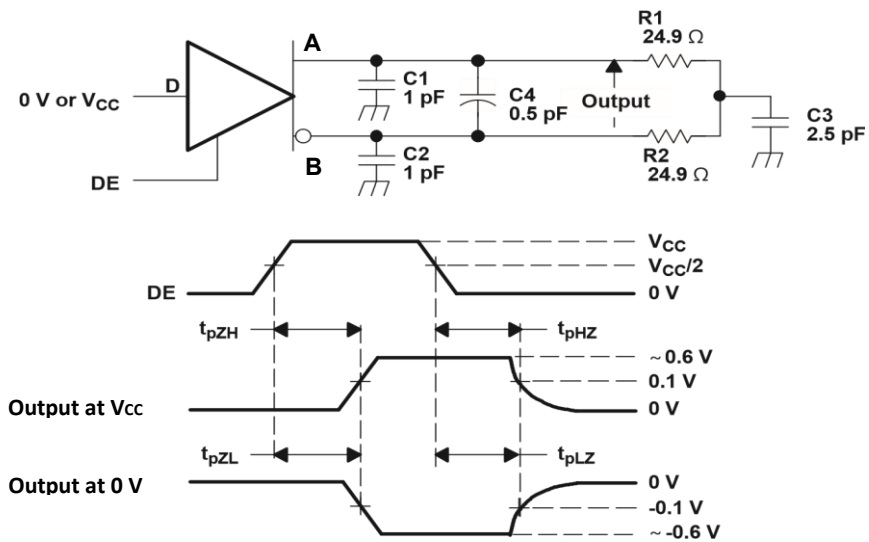

Figure 5. Driver Enable and Disable Time Circuit and Definitions
| $t_{PHZ}$      | Disable time, high-level-to-high-impedance output (1) | See Figure 5                       |  | 4.5 |  | ns |